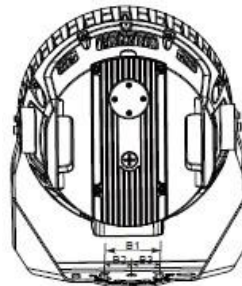

Figure 4
1. Mark the pilot holes using B1, B2, B3 distances as shown in Figures 4 and 5.